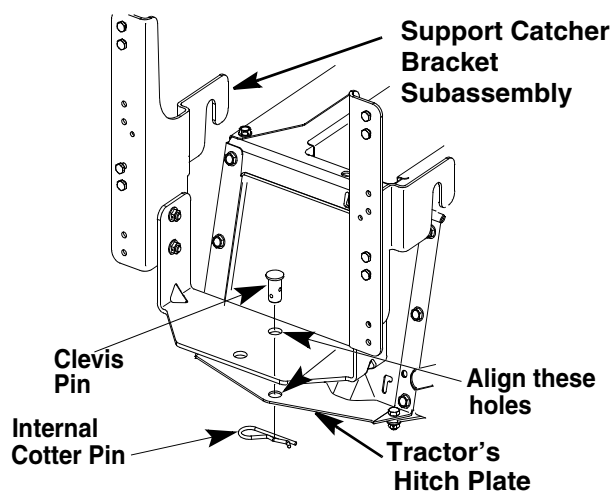

**FIGURE 5**
- Position the Support Cross Bracket (Ref. No. 1) between the LH Support Catcher Bracket (Ref. No. 2) and the RH Support Catcher Bracket (Ref. No. 3). Orient the Support cross Bracket as shown in Figure 5
- Align the hole at the lower end of the support bracket subassembly to the hole on the hitch plate on the tractor and insert the Clevis Pin (Ref. No. 7) through these two holes. Secure the Clevis Pin with the Internal Cotter Pin (Ref. 11). See Figure 5.